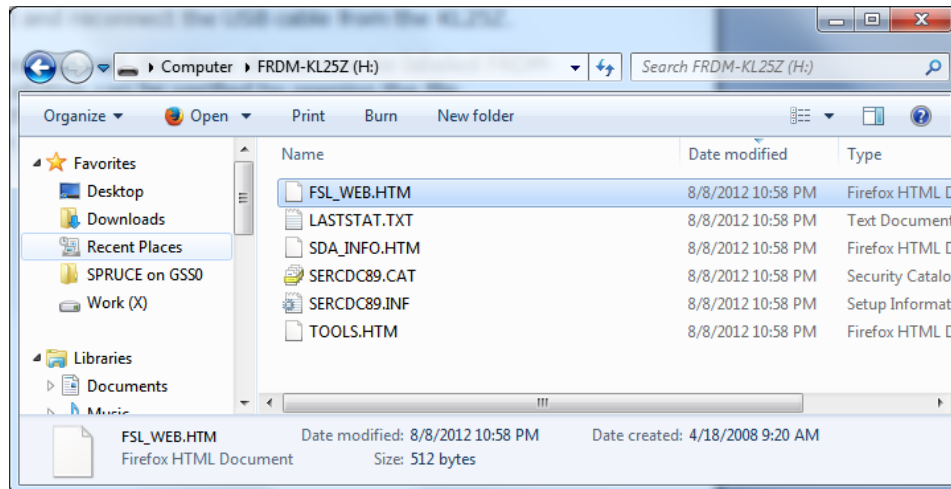

Figure 5 - FRDM-KL25Z drive
You can check the bootloader and application versions connecting the KL25Z SDA USB connector to a PC and in Windows Explorer, opening the file SDA_INFO.HTM in the drive labeled FRDM-KL25Z (Figure 5) and (Figure 6). Bootloader version 1.11 and application version 1.18 are the latest at the time this was written.
Step 11: In Windows Explorer, the drive should now be labeled FRDM-KL25Z. Proper installation can be verified by opening the file SDA_INFO.HTM (Figure 5) in the FRDM-KL25Z and verifying the application version matches that of the firmware files that were loaded (Figure 6).